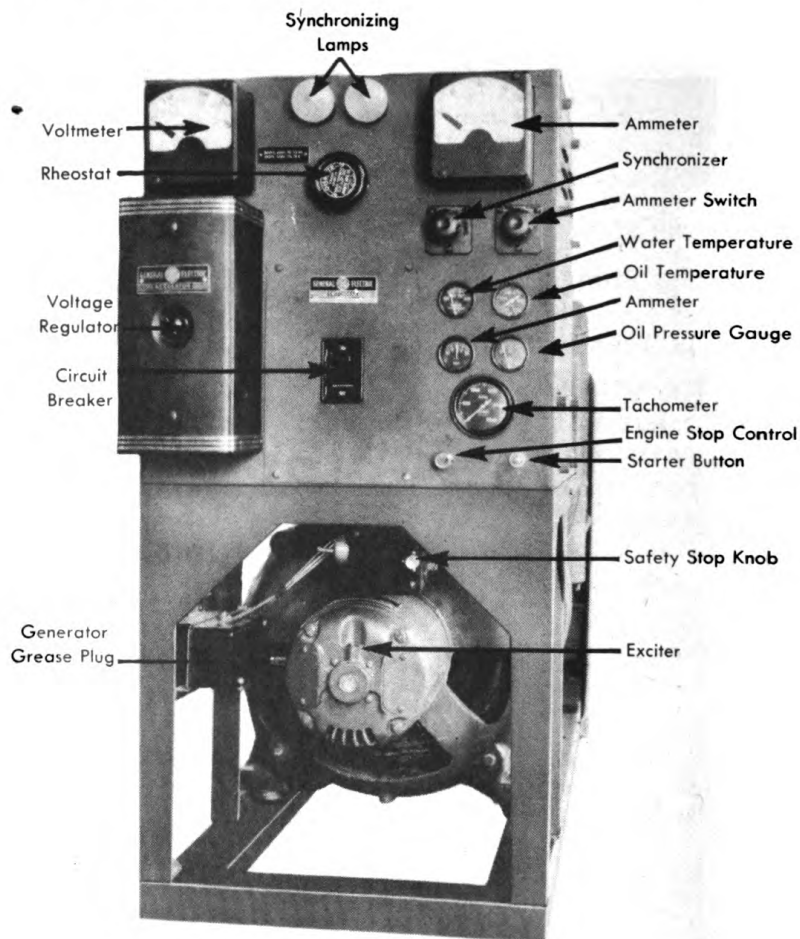

Figure 316. Generator Control Panel.
1. Turn the safety stop knob to on position, that is, pointed to the left. **NOTE:** The safety stop control is mounted at the rear of the unit underneath the control panel. See Figure 316.
3. Turn the exciter field rheostat so that the pointer points to the mark on the front of the panel. See Figure 316. The unit is now ready to operate under load. With the load attached, move the breaker to the "On" position.